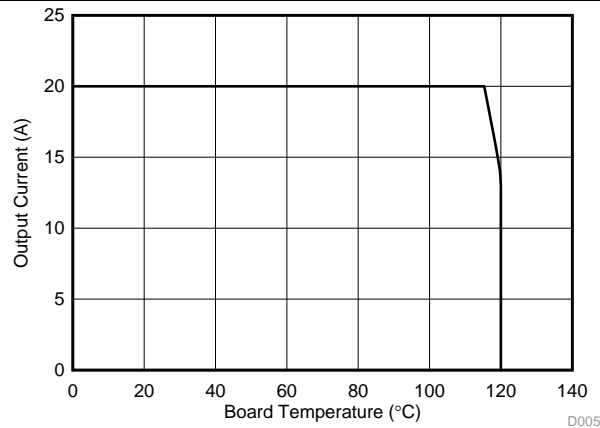

图 3. Typical Safe Operating Area (SOA) ⁽¹⁾
The SOA curve in the CSD86336Q3D data sheet provides guidance on the temperature boundaries within an operating system by incorporating the thermal resistance and system power loss. 图 3 outlines the temperature conditions required for a given load current. The area under the curve dictates the safe operating area. All the curves are based on measurements made on a PCB design with dimensions of 4 in (W) × 3.5 in (L) × 0.062 in (T) and 6 copper layers of 1-oz copper thickness.